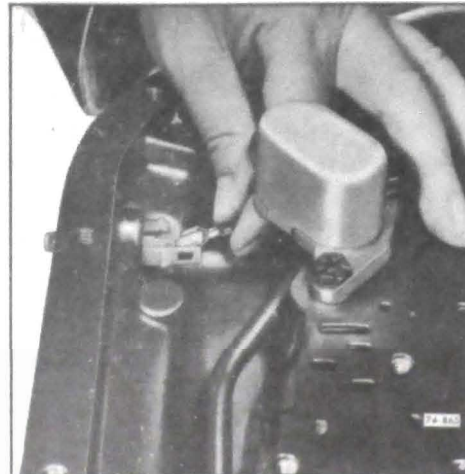

Figure 76-516
4. Disconnect detent solenoid wire from case connector. See Figure 76-516.